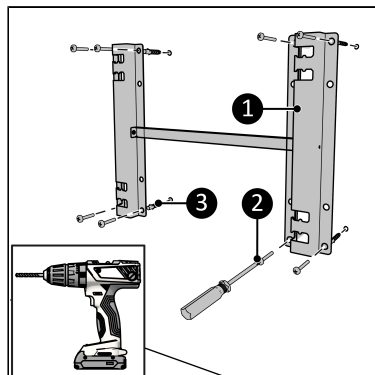

Figure 36.
1. Place the bracket against the wall, with the bracket openings at the left and mark the eight holes (Figure 36).
3. Place wall plugs (Figure 36, pos. 3).
4. Screw and tighten the wall bracket (Figure 36, pos. 1) to the wall with eight large screws using a Phillips screwdriver (Figure 36, pos. 2).